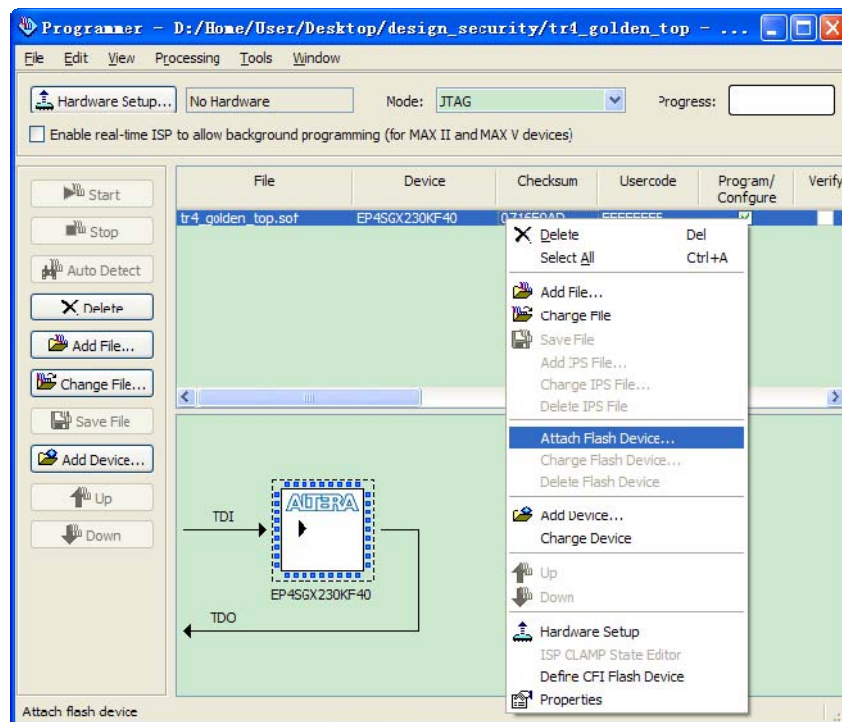
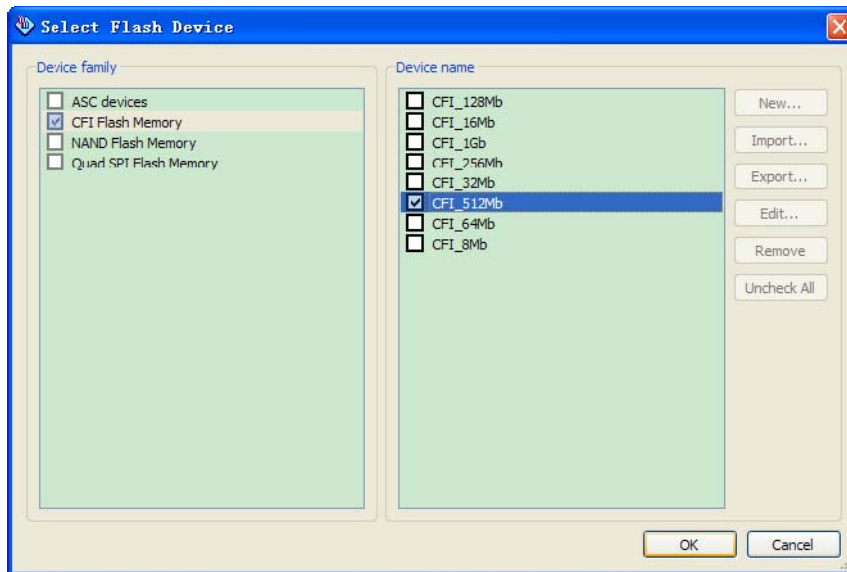

Figure 3-17 Attaching Flash Device
Figure 3-18 Selecting Flash Device
5. Select and right-click the SOF you just added. Click **Attach Flash Device**, as shown in Figure 3-17. The **Select Flash Device** dialog box appears as shown in Figure 3-18.